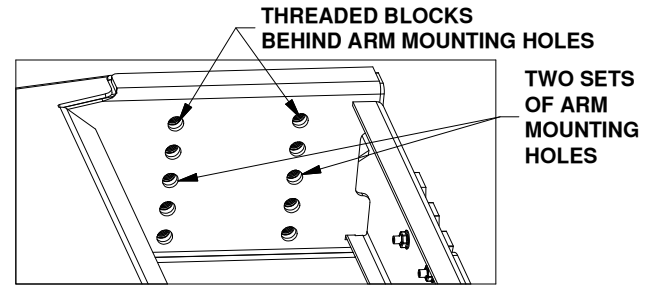

Figure C3: Looking inside the slider carriage.
- Inspect threaded blocks.** Behind each set of arm mounting holes, inside the carriage is a threaded block. If the blocks shifted during shipping and the threaded holes are not aligned with the holes in the carriage, try using a screwdriver or similar tool to align the blocks, see Figure C3. If a block cannot be aligned through the carriage holes, see the notice below.